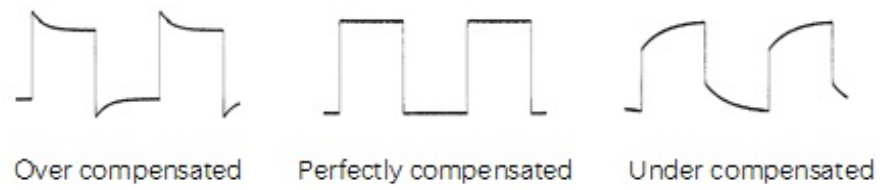

Figure 5.7 Probe Compensation
- 2 Check the displayed waveforms and compare them with the waveforms shown in *Figure 5.7*.